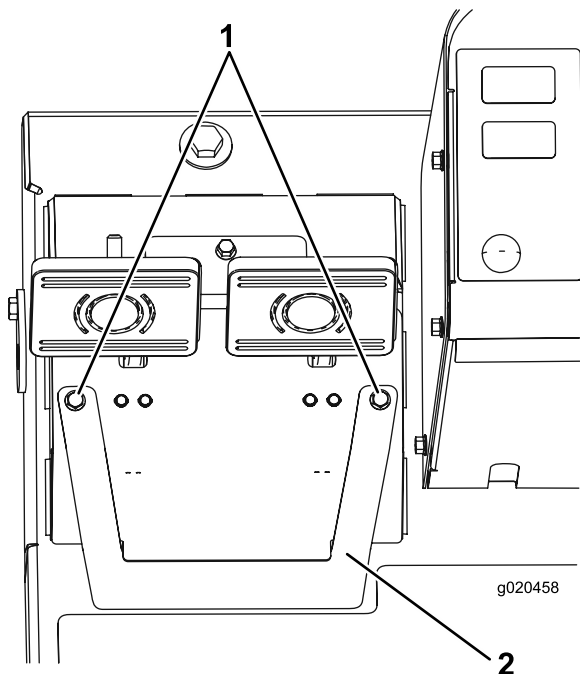

Figure 94
- A. Loosen the 2 mounting screws and remove the brake-adjustment cover (Figure 94).